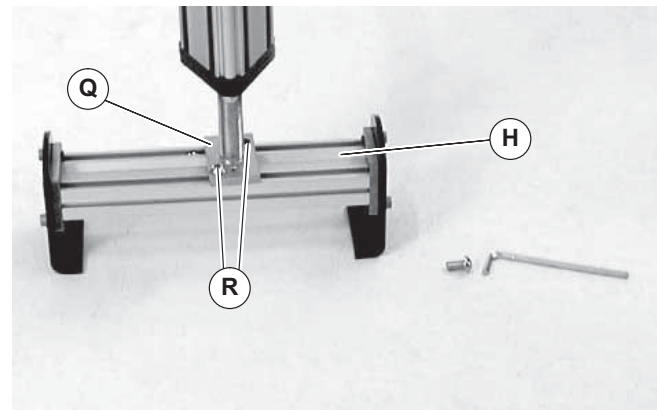

Figure 15
- Align the screw holes (Figure 15, item R) of the stand top screw end plate (Q) with the hex nuts in the t-slots in the crossmember tube (H).